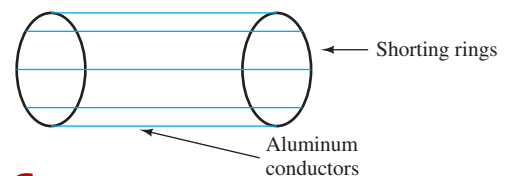

FIGURE 13.37 (a) Squirrel cage (Used with permission from © David J. Green/electrical/Alamy.) (b) Wound rotor (Used with permission from © Lyrek/Alamy.)
1. Squirrel cage or short-circuited rotors [Figure 13.37(a)]
2. Slip ring or wound rotors [Figure 13.37(b)].
Squirrel Cage Rotors. This rotor is characterized by simplicity and ruggedness as shown in Figure 13.37. It consists of aluminum bars called rotor conductors placed in lengthwise slots cut along the circumference of a cylindrical rotor made up of iron. These aluminum bars are shorted at the end by rings and the entire structure looks like a cage, and hence the name (see Figure 13.38). A slip ring and brush arrangement is not needed which helps to reduce the required maintenance and keeps the architecture simple. This type of rotor is most commonly used. When rotor and stator fields are stationary with respect to each other, starting torque is generated. If this starting torque is sufficient to spin the rotor, then it will move up to its operating speed. Moderate starting torque is achievable using this rotor design. Starting torque is an important feature of an electric machine. It is the torque provided by the motor at the zero speed.